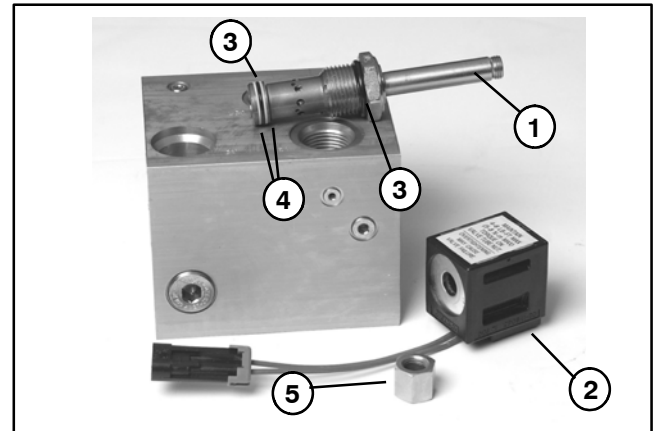

Figure 94
A. Lubricate new O-rings of seal kit with clean hydraulic oil and install. The O-rings must be arranged properly on the cartridge valve for proper operation and sealing (Fig. 94).